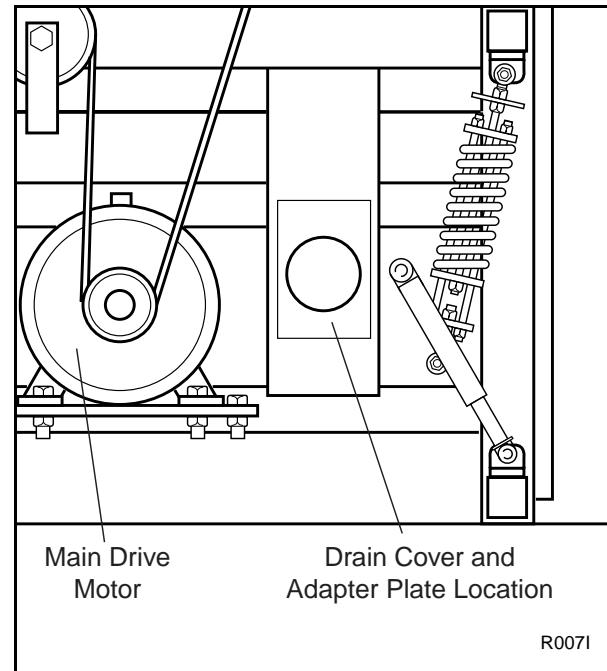

Figure 19
- a. Remove the drain cover plate on the right side of washer-extractor rear. See Figure 19.
c. Install the drain adaptor plate included with the kit in the place of the drain cover plate. See Figure 19.